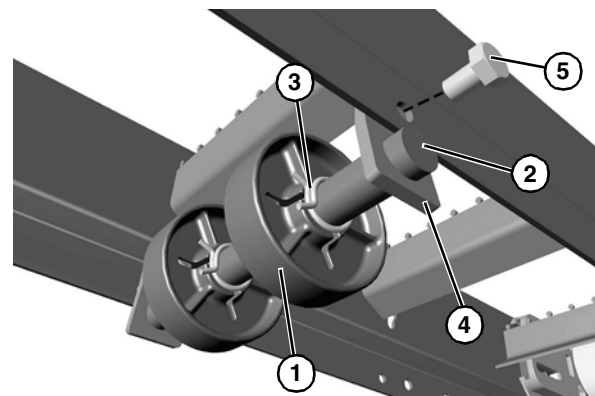

Figure 13
1. Install return disks (**Figure 13, item 1**) onto shaft (**Figure 13, item 2**), and secure with clamps (**Figure 13, item 3**).
2. Install belt return assembly onto frame with return shaft brackets (**Figure 13, item 4**) and cap screws (**Figure 13, item 5**) on the outside of conveyor.